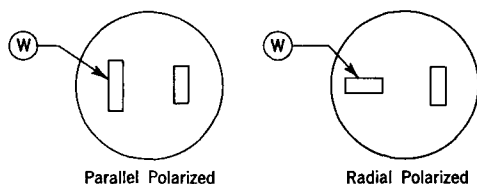

Fig. 2
1.11 For parallel polarized devices, the white (identified grounded) terminal is the wide terminal and for radial polarized devices it is the radial terminal, as shown schematically in Fig. 2 and as covered on ED-91181-01.